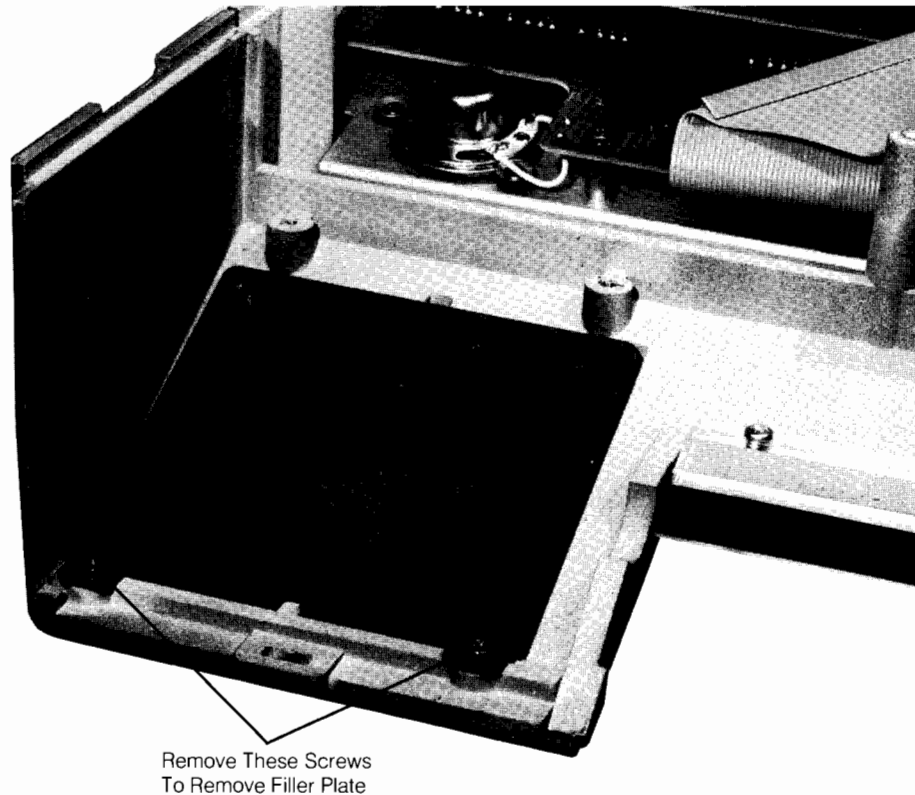

Figure 1-10: Filler Plate Removal
- Remove the keyboard and place it as shown in Figure 1-10.